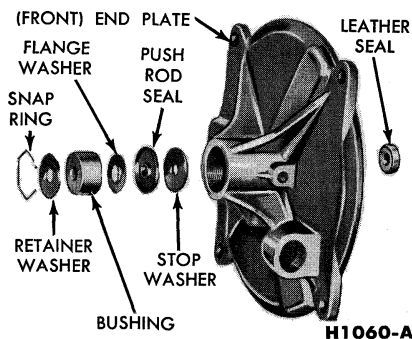

FIG. 46—Hydraulic Cylinder Push Rod Seals
flat side down. Remove the O-ring seal, snap ring and retainer washer, flange washer, push rod seal, and stop washer from the end plate (Fig. 46).
24. Press the leather seal into the hydraulic cylinder bore of the front end of the plate from the inner side of the plate with the lip of the seal toward the outer end of the plate (Fig. 46).